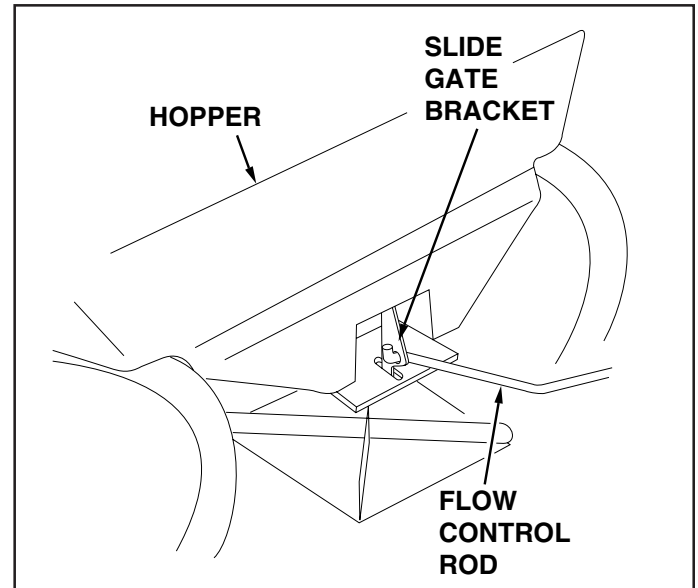

FIGURE 9
21. Hook the free end of the flow control rod through the hole in the slide gate bracket located near the bottom of the hopper. See figure 9.